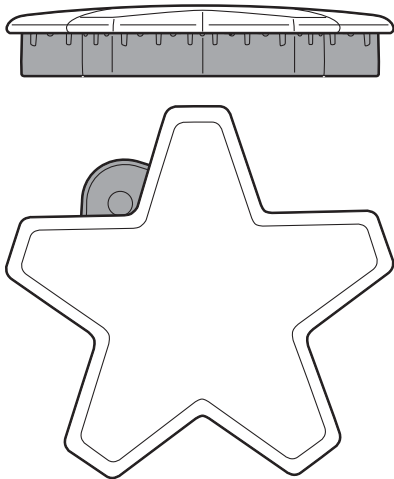
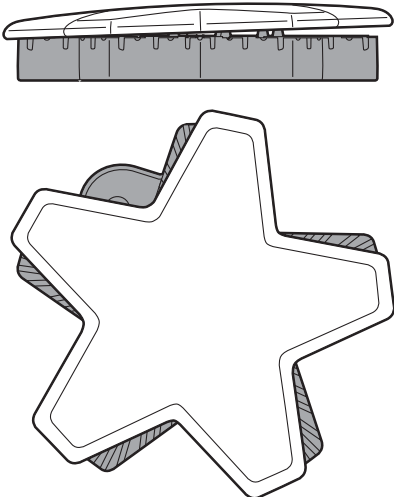

Figure 13: Correct Burner Cap Placement
Figure 14: Incorrect Burner Cap Placement
- Check each burner to make sure there is no gap between the burner cap and burner base. See *Figure 13* and *Figure 14* for examples of correct and incorrect placements of the burner cap.
- You may gently try to move the burner caps from side to side to check if the caps are properly placed on the burner bases. When properly placed, each burner cap will rest flat on top of its burner base, and completely cover the star-shape of the burner base when viewed from the top as shown in *Figure 13*.
Each STAR[®] burner has its own electronic igniter that sparks when the burner is turned on. Each burner should light in 4 seconds or less. If a burner does not light, check to see that the burner cap is positioned correctly on the base (see *Figure 13* and *Figure 14*).